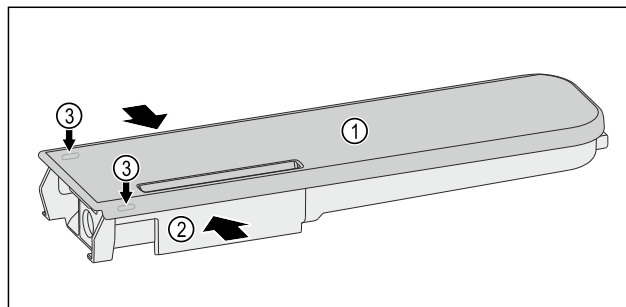

Fig. 171
- ▶ Squeeze the water tank Fig. 171 (2) and carefully lever the cover Fig. 171 (1) over the latches Fig. 171 (3) pull it up.
- ▶ Slightly move the cover Fig. 171 (1) back and forth and remove it from the top.